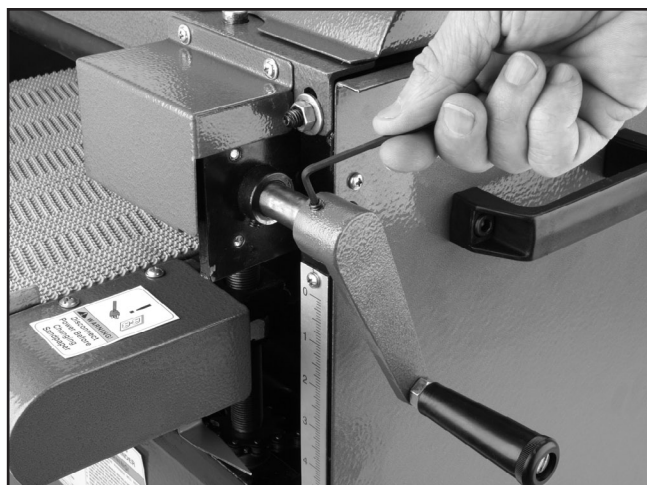

Figure 6. Crank handle installation.
1. Place the crank handle over the shaft shown in **Figure 6** and, using a 3mm hex wrench, secure the handle with the two set screws.